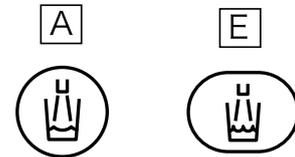

Fig.3-4 Cupfiller Switch
**② Cupfiller Switch (Fig.3-4) [A] [E]**